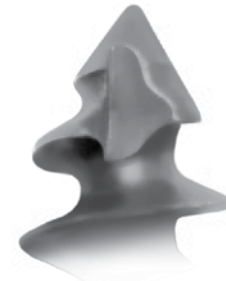

Fig. 4
- **A self tapping screw should NOT be used (Fig. 4).**